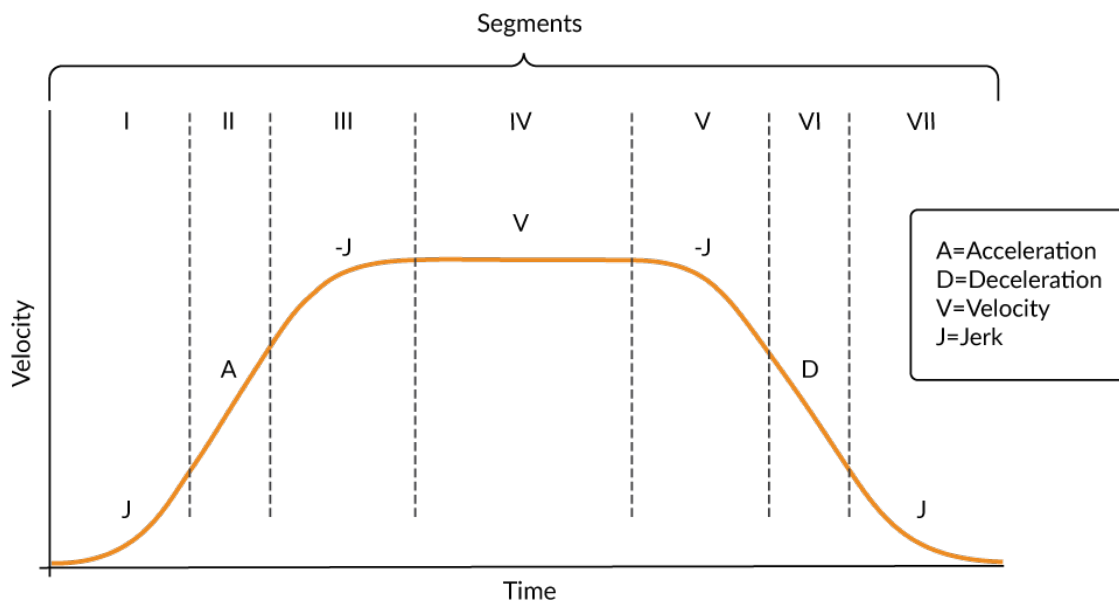

Figure 11: S-curve Profile
Figure 11 shows a typical S-curve profile. In Segment I, the S-curve profile drives the axis at the specified jerk (J) until the maximum acceleration (A) is reached. The axis continues to accelerate linearly (jerk = 0) through Segment II. The profile then applies the negative value of the jerk to reduce acceleration to 0 during Segment III. The axis is now at maximum velocity (V), at which it continues through Segment IV. The profile will then decelerate in a manner similar to the acceleration stage, using the jerk value first to reach the maximum deceleration (D) and then to bring the axis to a halt at the destination.